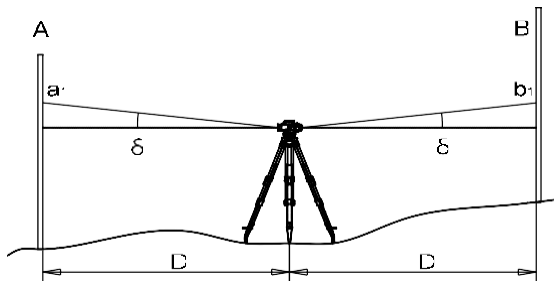

Fig 17
- (1) Set the instrument at a point halfway between point A and B spaced about 30-40m apart. Take readings of staff A and staff B as “a1” and “b1”.(Figure 17) Calculate the real height difference : $\Delta H = a_1 - b_1$